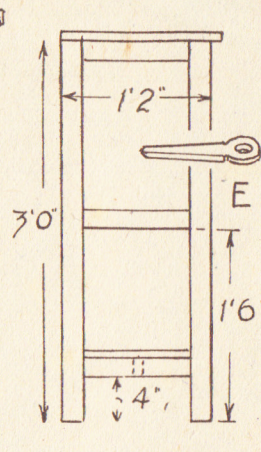

Fig. 3—Framework of sides
Screw a pair of stout brass wall plates to the rear of the safe, and screw to the wall. It is advisable also to either fit underneath the safe a pair of 6 in. steel brackets, to take the major portion of the weight, or, if a brick and plaster wall is in use, a pair of wall plates of the pattern shown at (E) in Fig. 3.
The sides for a safe to stand on the floor, are shown in Fig. 3, the fillets for the bottom being screwed to the